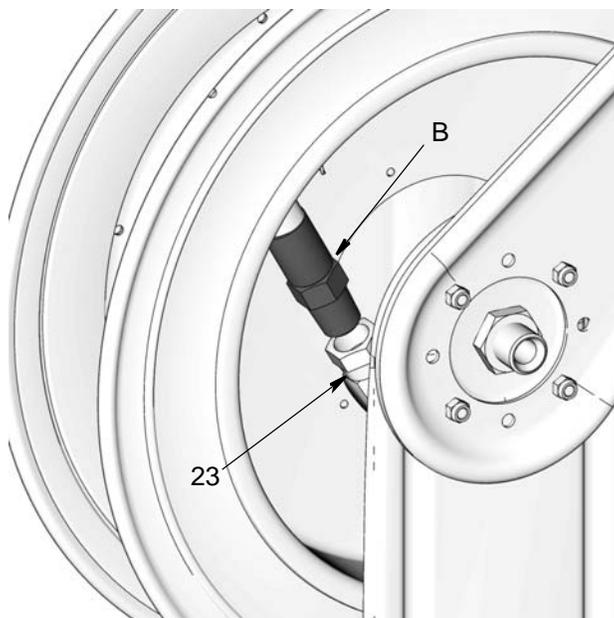

FIG. 4
5. Disconnect hose fitting (B) from swivel fitting (23) (FIG. 4) and finish removing hose from spool.